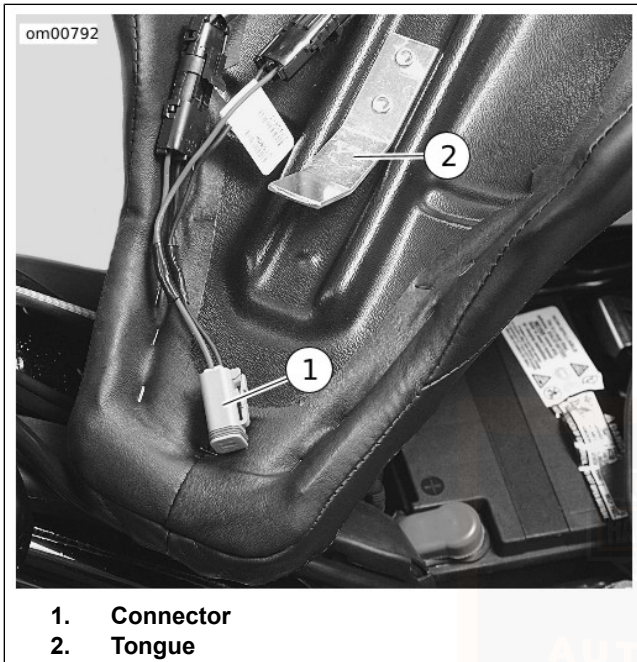

Figure 71. Seat: FLHTCUSE
4. See Figure 71. Push seat rearward to free tongue (1) at front of seat from slot in frame backbone.
3. See Figure 71. Firmly push front of seat downward and rearward until tongue engages slot in frame backbone.